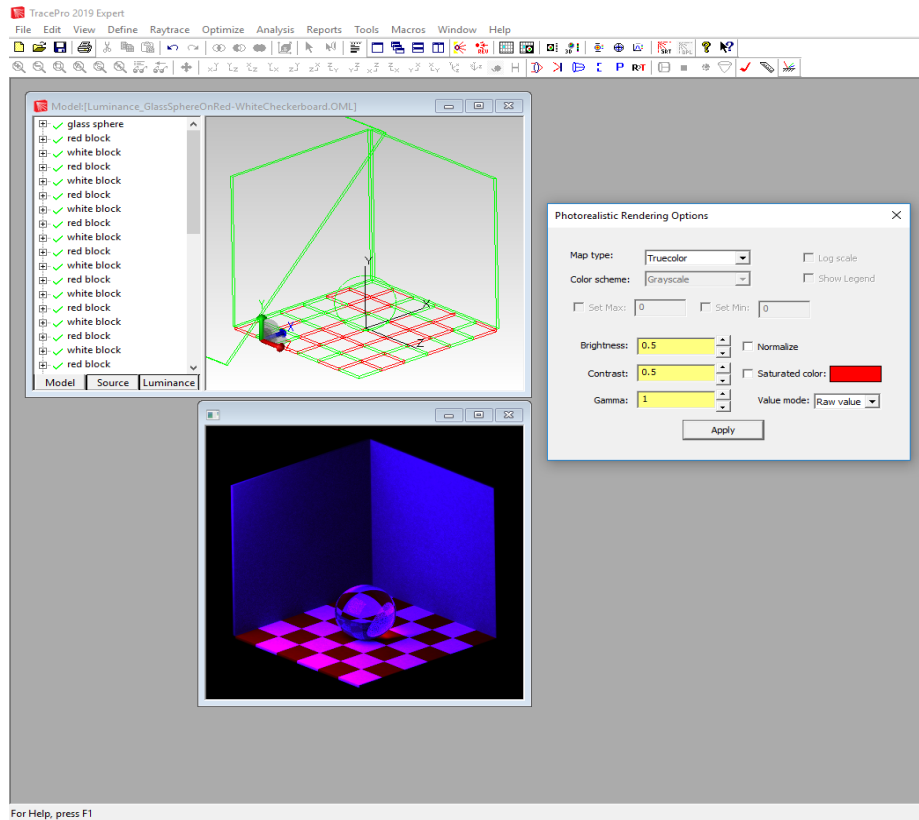

FIGURE 9.73 - Photorealistic rendering result after three rendering passes (Quality set to High) with Brightness and Contrast at default values of 0.5.
7. The completed rendering is shown in Figure 9.73. The scene appears bright and washed out due to the characteristics of this particular model and how